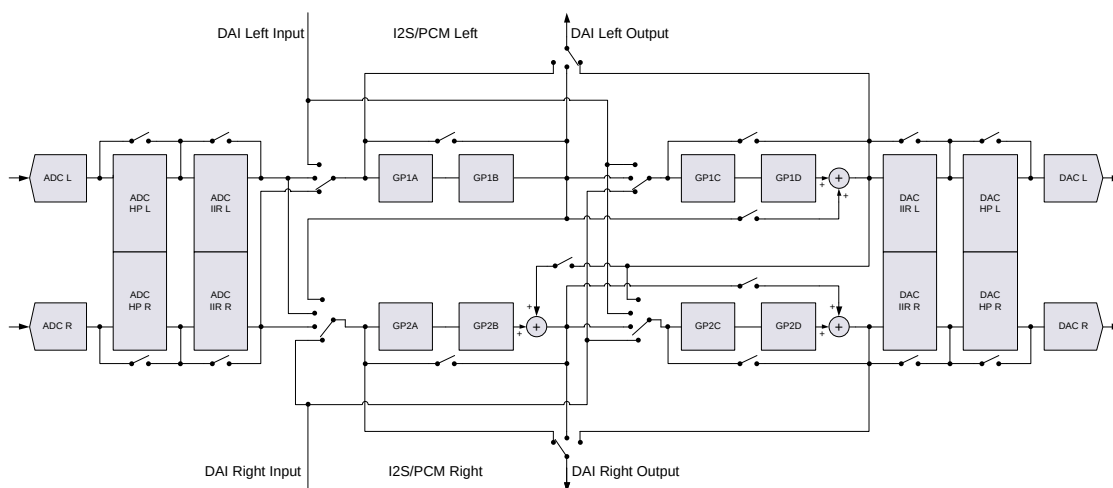

Figure 16: Digital Signal Processing Engine (Simplified Block Diagram)
A digital high pass filter for each DAC channel is implemented (configurable by control DAC_HPF_F0 (address 0x14, Table 61) that can be enabled via control DAC_HPF_EN (address 0x14, Table 61, see blocks 'DAC HP' in Figure 16). After Reset, the high pass filters for both channels are enabled by default.
The digital signal processing engine includes a configurable audio processor that offers flexible routing and extensive audio enhancement and effects. Linear phase FIR filters perform the interpolation and decimation for the required sigma-delta sample rates. Configurable high-pass filtering (optionally enabled) removes any signal DC offset (see blocks 'ADC HP' and 'DAC HP' in Figure 16) and offers 5-band equalisation during recording and sound playback.
Alternatively it can provide dedicated voice band filtering at samples rates ≤ 16 kHz (see blocks 'ADC IIR' and 'DAC IIR' in Figure 16).
An additional general purpose (GP) filter engine offers up to eight second-order biquad filter stages with configurable 16-bit coefficients, and supports flexible digital audio routing and mixing arrangements. Figure 16 shows some possible routings (a subset of the available settings) for filter blocks GP1A to GP2D with the related control registers. Typical use cases with example configurations are explained in the section 8.3.
To allow user-specific sound control, the recording path includes a programmable 5-band equaliser (combined in the ADC IIR blocks in Figure 16). This is enabled using control ADC_EQ_EN (address 0x13, Table 60).